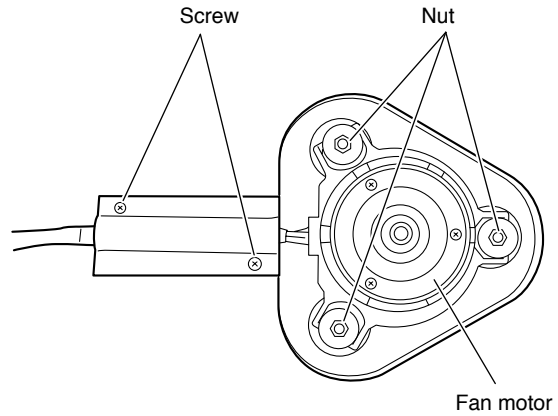

Fig.23
- (2) Remove the 2 screws and 3 nuts, and remove the fan motor. (Fig. 23)